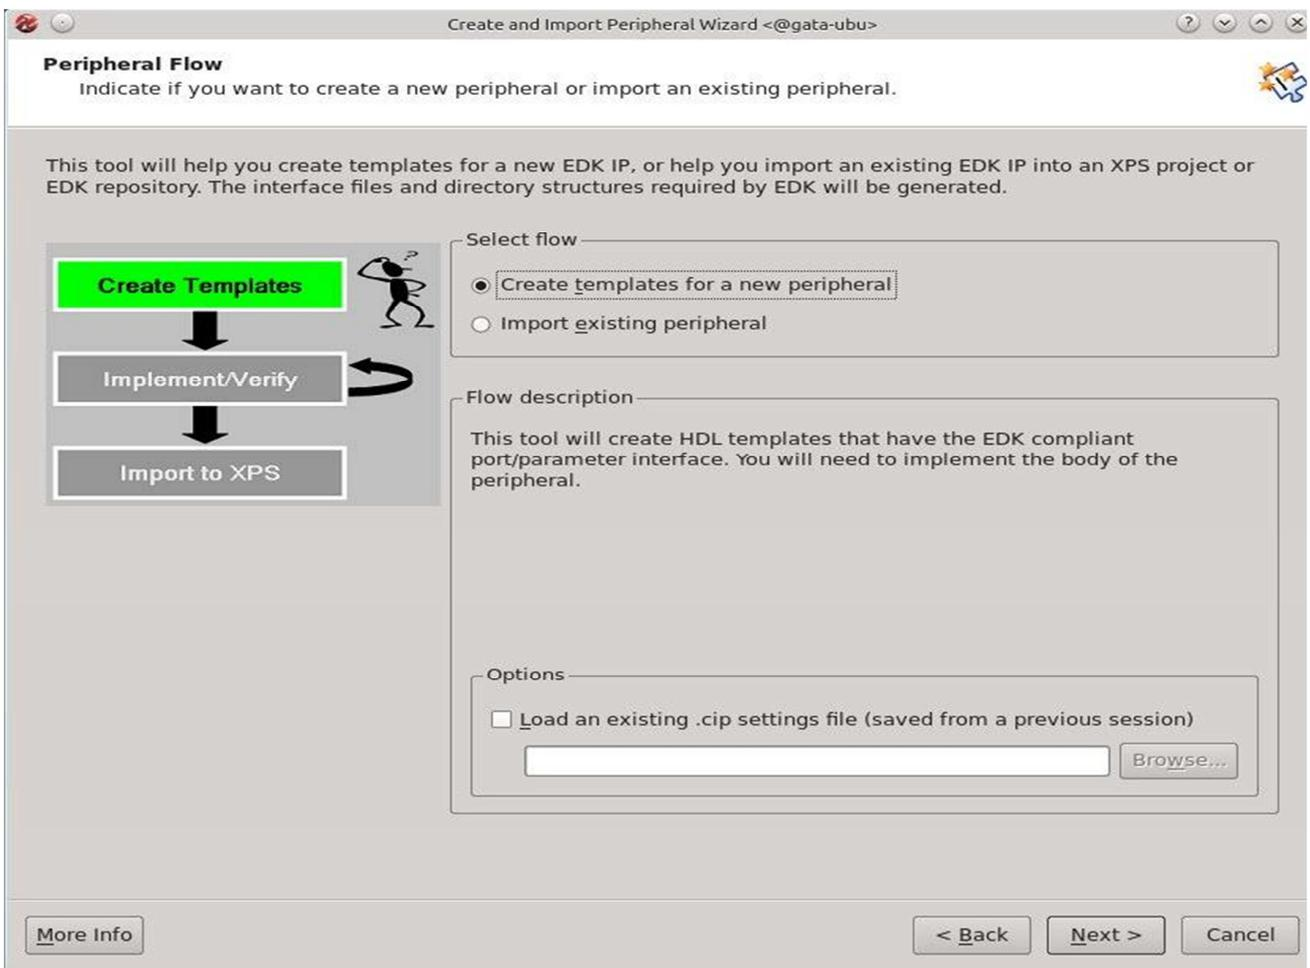

Figure 3: Create and Import Peripheral Wizard (Step 2)
Step 2: The second page of the wizard asks if you want to create a new peripheral or import an already created core. Select **“Create Template for a new Peripheral”** and then press **“Next”** as shown in **Figure 3**. The wizard will guide you with the necessary steps to build the required files to build and connect your new peripheral (both hardware and software).